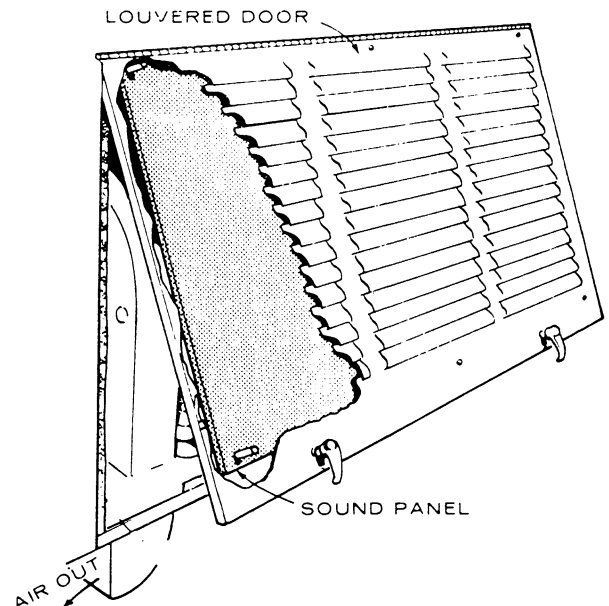

FIGURE 4. TYPICAL LOUVERED DOOR AIR INLET
Sheet metal with louvers can be used over inlet areas. However, some provide only 60 percent free inlet area per square foot. Even the most efficient grille only provides about 90 percent free inlet area per square foot. The free inlet area of the material can be obtained from the manufacturer. Calculate the inlet area needed using the following information as a guide. See Figure 4.
4. To prevent line of sight noise, a sound panel (baffle) may be added behind louvered air inlet. The panel must be spaced to allow for minimum free air inlet of 100 square inches. See Figure 4.